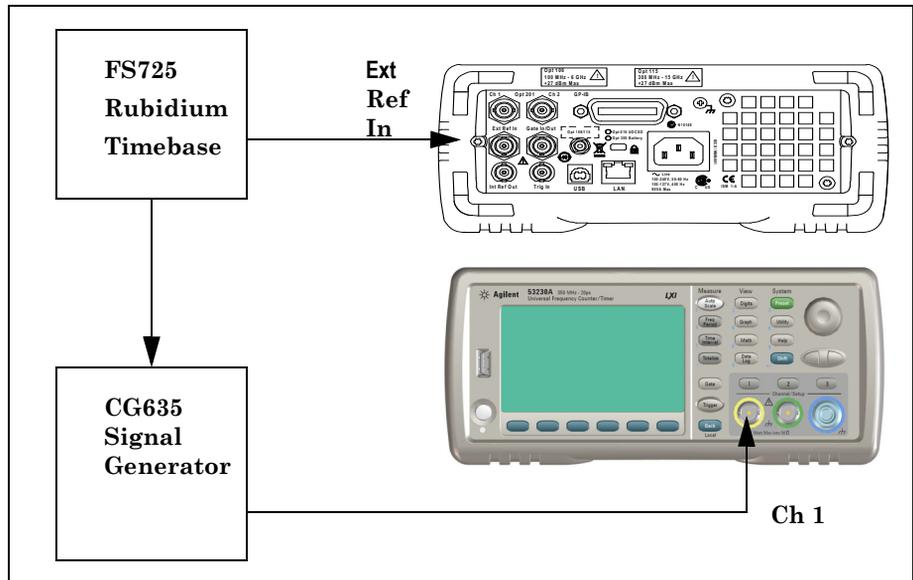

Figure 1-5. Test Setup for Single Period
- 1 Connect the equipment as shown in Figure 1-5.